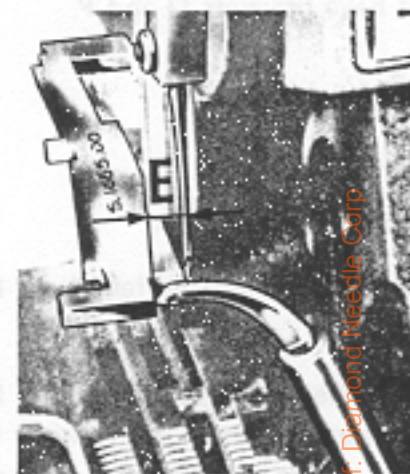
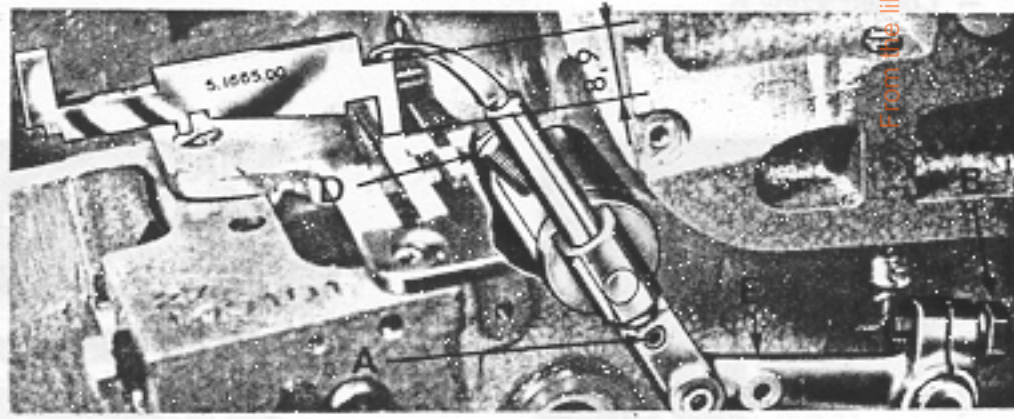

fig. 7
fig. 9
**Note:** To obtain the figure of  $5/16'' - 23/64''$  in fig. 9 it is necessary to move lever E up or down, at the same time remembering that by doing this the distances in figs. 7 and 8 will increase or decrease.